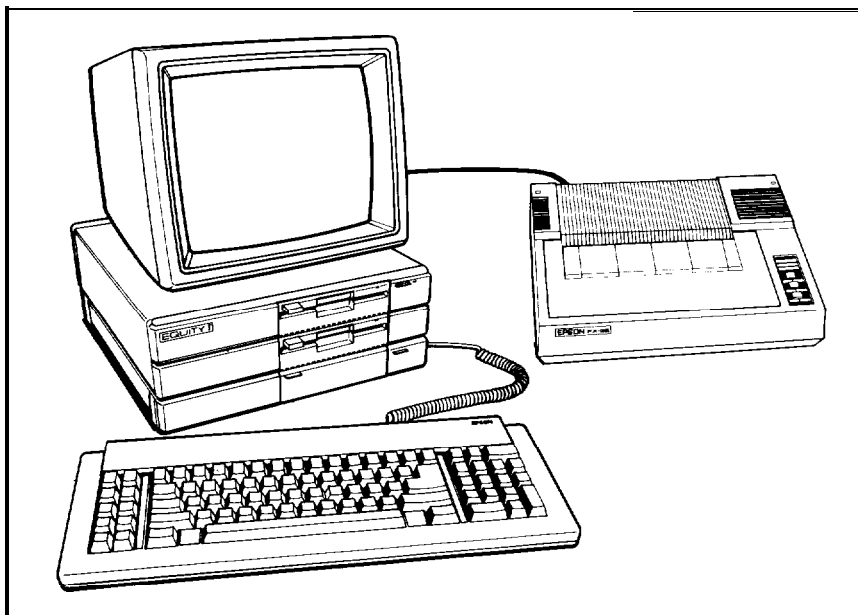

Figure 2-5. Printer placement
1. Place the printer in a convenient location next to your system so that the power and data cables do not interfere with the paper. See Figure 2-5.